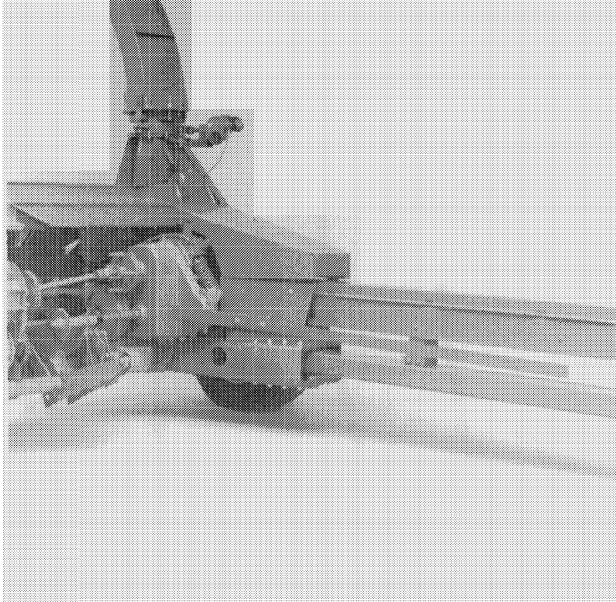
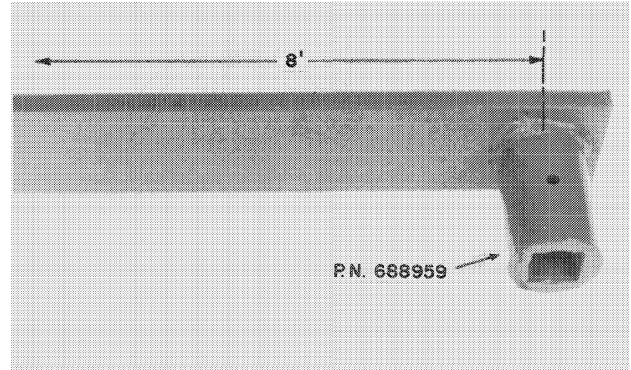

FIGURE 2-19
FIGURE 2-20
5. Install a bar on the gearbox attachment shaft as shown in Figure 2-19. See Figure 2-20 for bar dimensions.